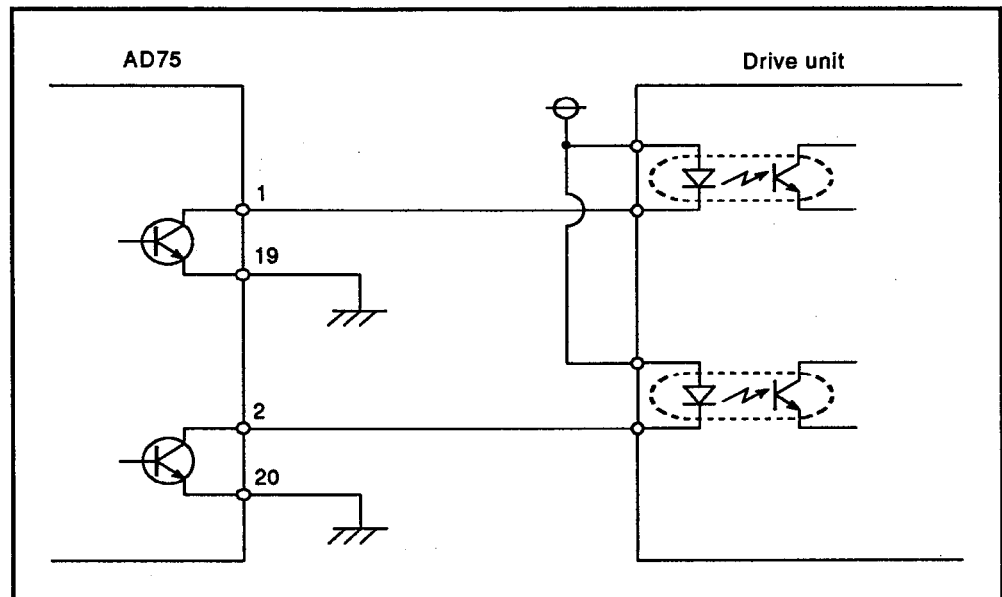

Fig. 5.2 Example Connection Using AD75 Open Collector
- (3) When connecting an AD75 and drive unit using the open collector system, wire as shown in Figure 5.2.